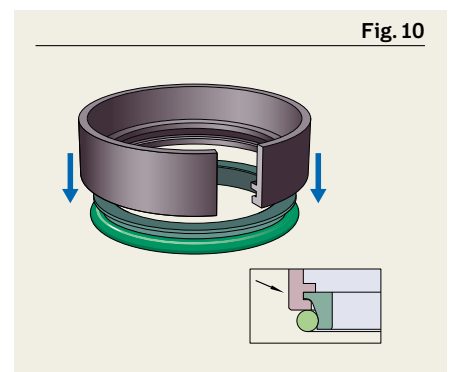

Fig. 10
- 6 Hold the o-ring on the seal ramp and engage the end of the tool between the gap of the o-ring and seal face inside the circular guideway groove of the tool (**Fig. 10**).